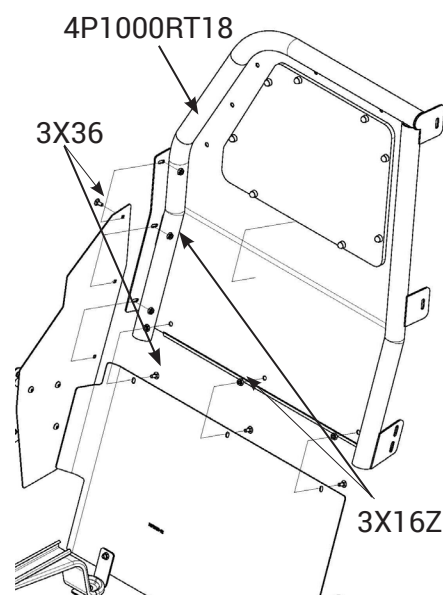

Fig. 6
- A. Place the (4P1000RT18) half cage partition in the vehicle and bolt (3X36) screws and (3X16Z) whiz nuts to partition mounting plate on the passenger side and the seat protector panel. (See Fig. 6) Make sure to lift the partition tight to ceiling while securing the bolts.